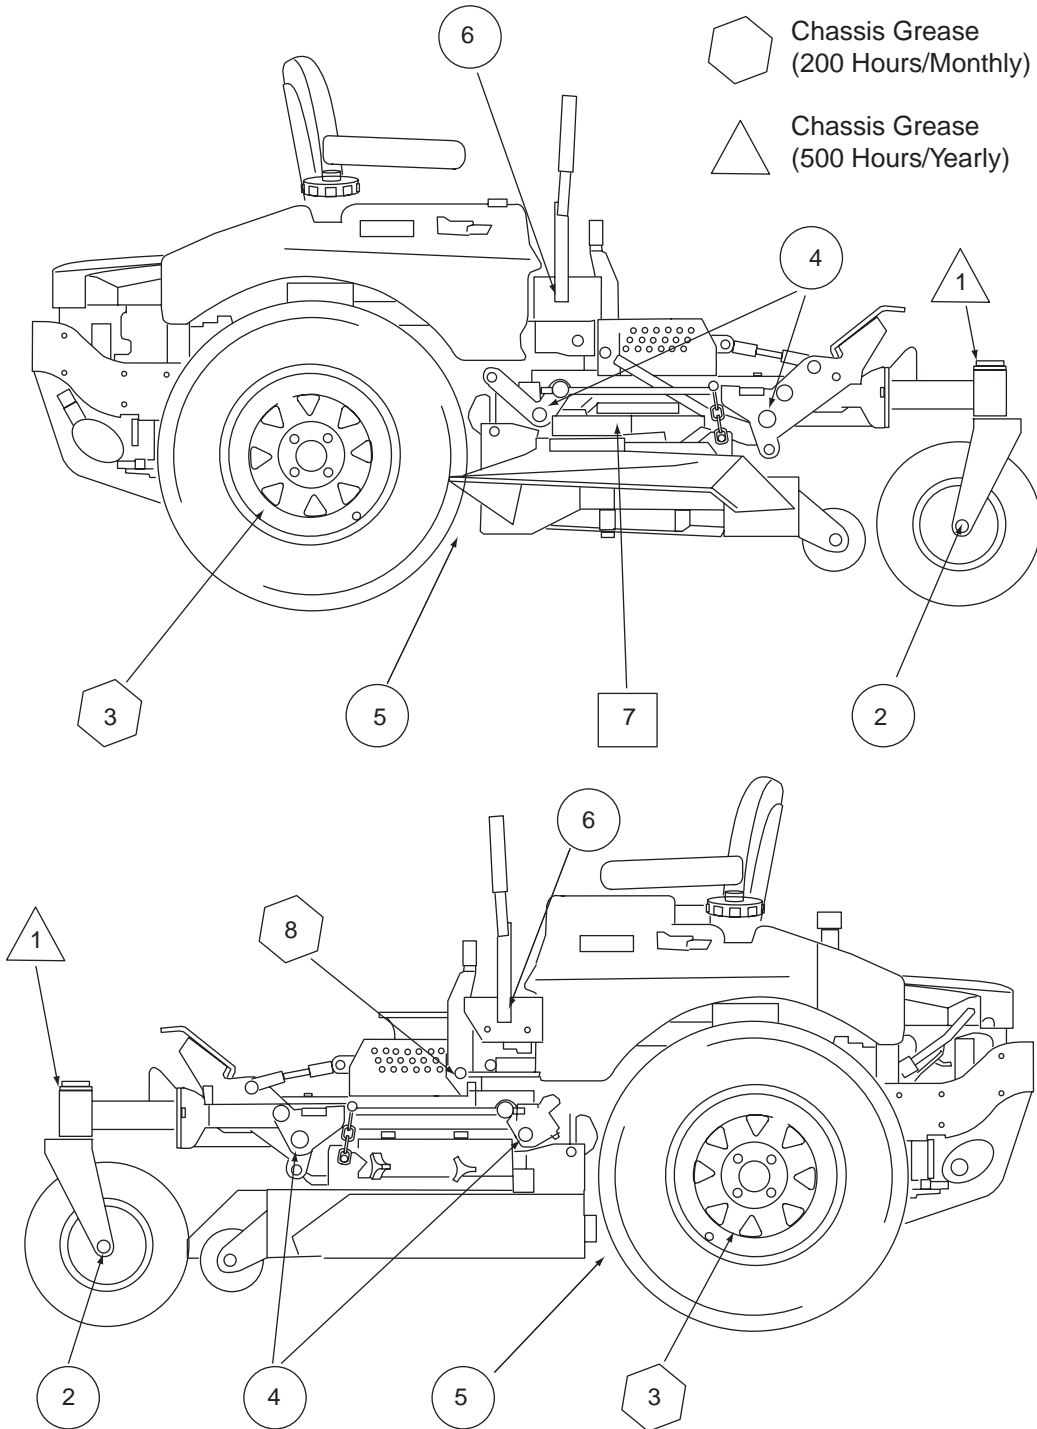

Figure 7.1 Lubrication Fitting Points
7.2 LUBRICATION - GREASE FITTING LUBRICATION CHART (SEE FIGURE 7-1)